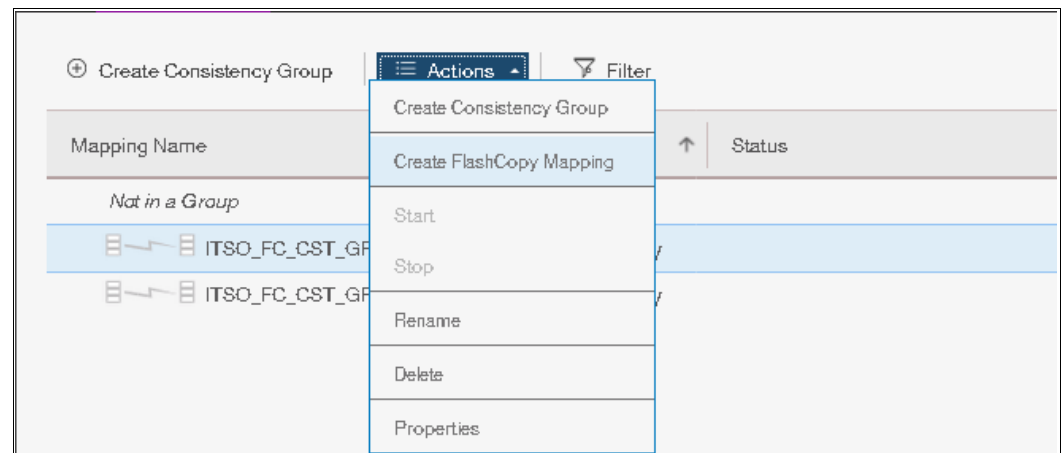

Figure 10-43 Create FlashCopy Mapping
4. If you did not select a Consistency Group, click **Create FlashCopy Mapping**, as shown in Figure 10-43.